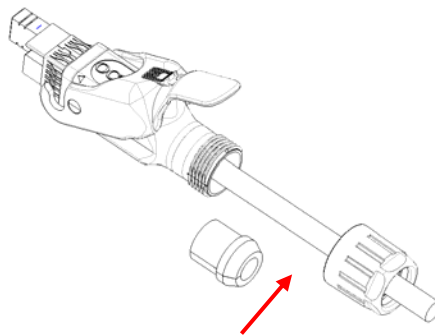
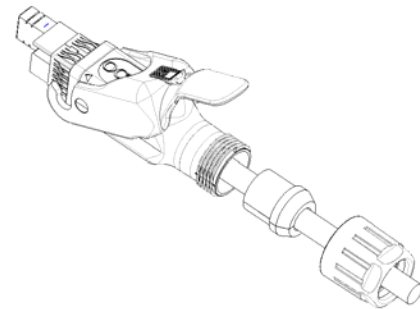

Figure 37
Figure 38
10. Place the split rubber gland onto the cable .(Fig 37 & Fig 38)